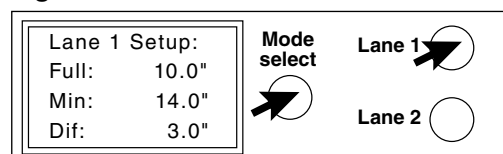

Fig. 3
2. To view Lane 2, press MODE SELECT to navigate to lane 2 setup (Fig. 3).